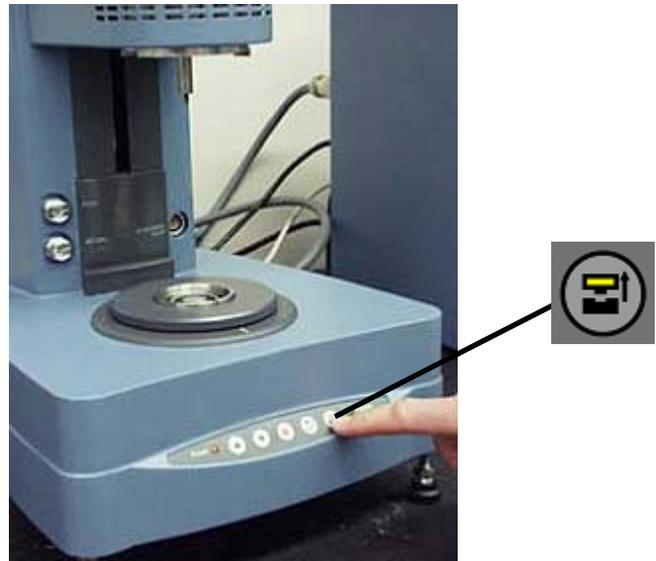

Figure 5.4
Refer to Figure 5.4 on the previous page for information on the location of the relevant connections in the instructions below.
1. Press the **'Release button'** on the control panel as seen in Figure 5.4. A continuous green light indicates that the attachment can be fitted.